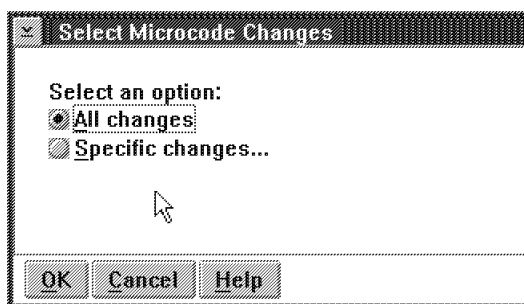

Figure 3-8. Select Microcode Changes
- b. ____ Select the **MCLs to be activated** all or specific, then click on "**OK**" (see Figure 3-8, if you have to activate a specific MCL, go to "Specific MCL Handling" on page 3-24, then return to step 2 on page 3-19).